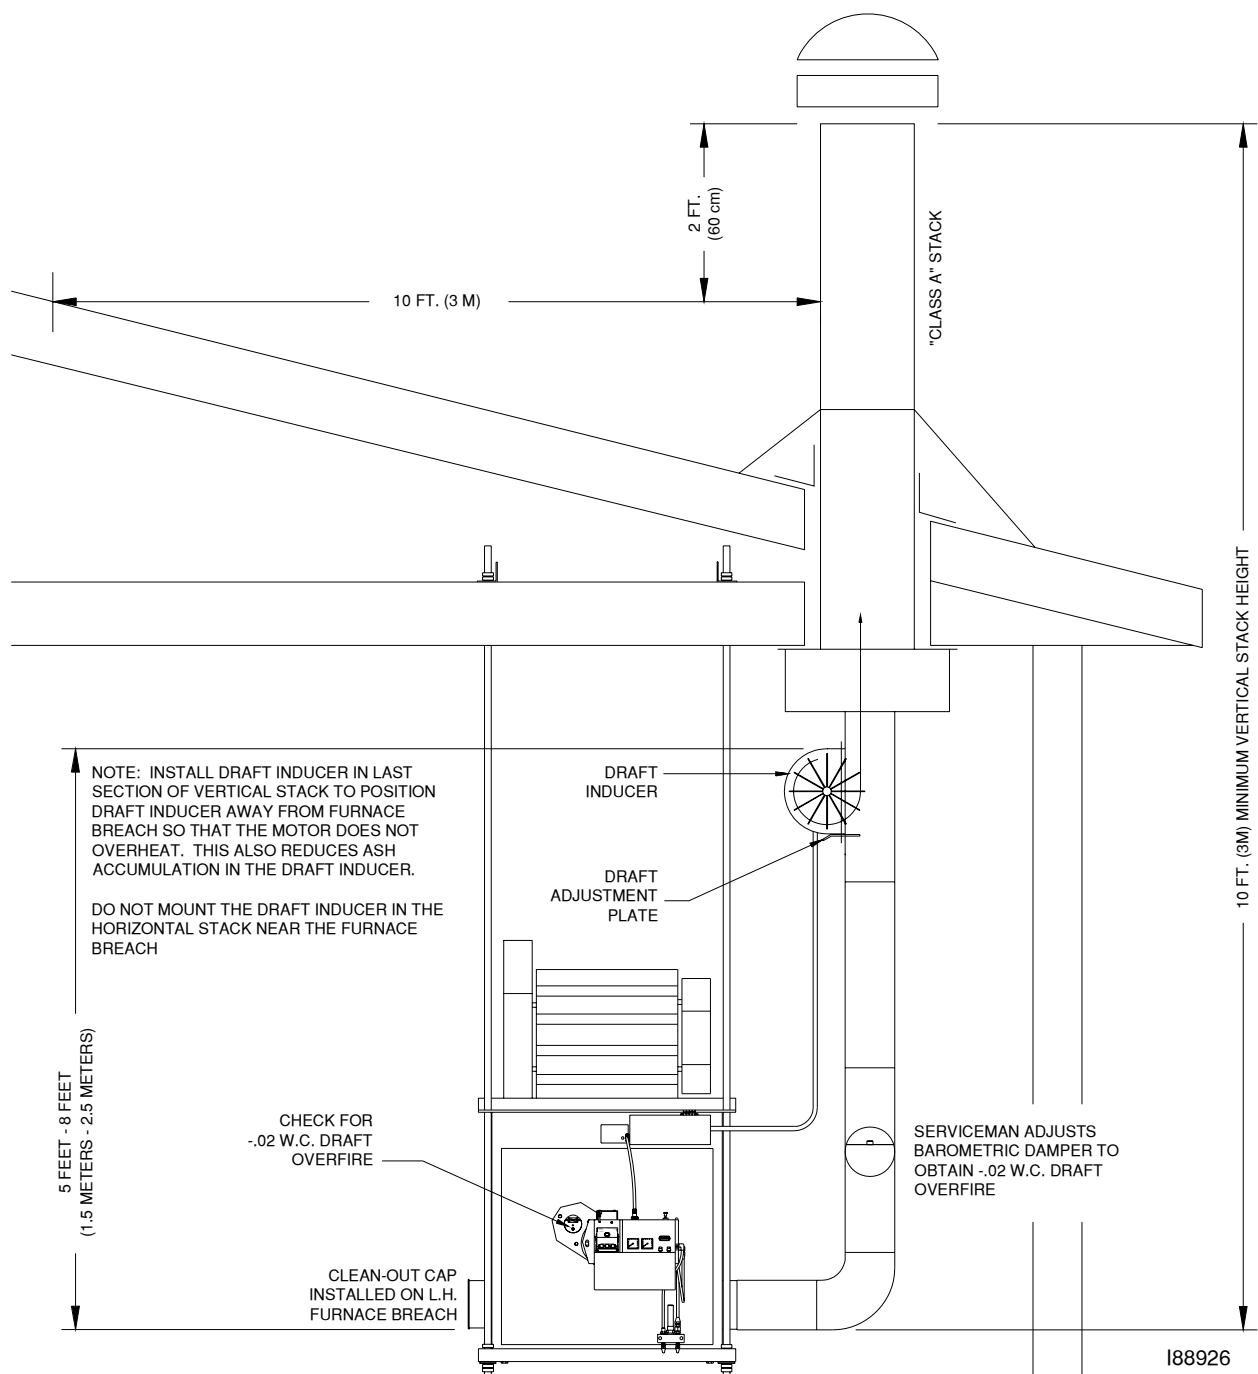

Figure 4P - Installation of the Draft Inducer
The draft inducer is designed to aid in the removal of the natural draft created by the appliance to vent the combustion gases to the outside of the building. As the paddle wheel turns, a negative pressure is maintained within the stack so that the combustion gases can leave the furnace and travel out of the stack. (See Figure 4P.) *Proper sizing, installation, and adjustment of the draft inducer are critical for optimal draft inducer operation.*
1. Refer to Figure 4P. Follow the instructions included with the draft inducer to mount the draft inducer on the section of single-wall vertical stack.